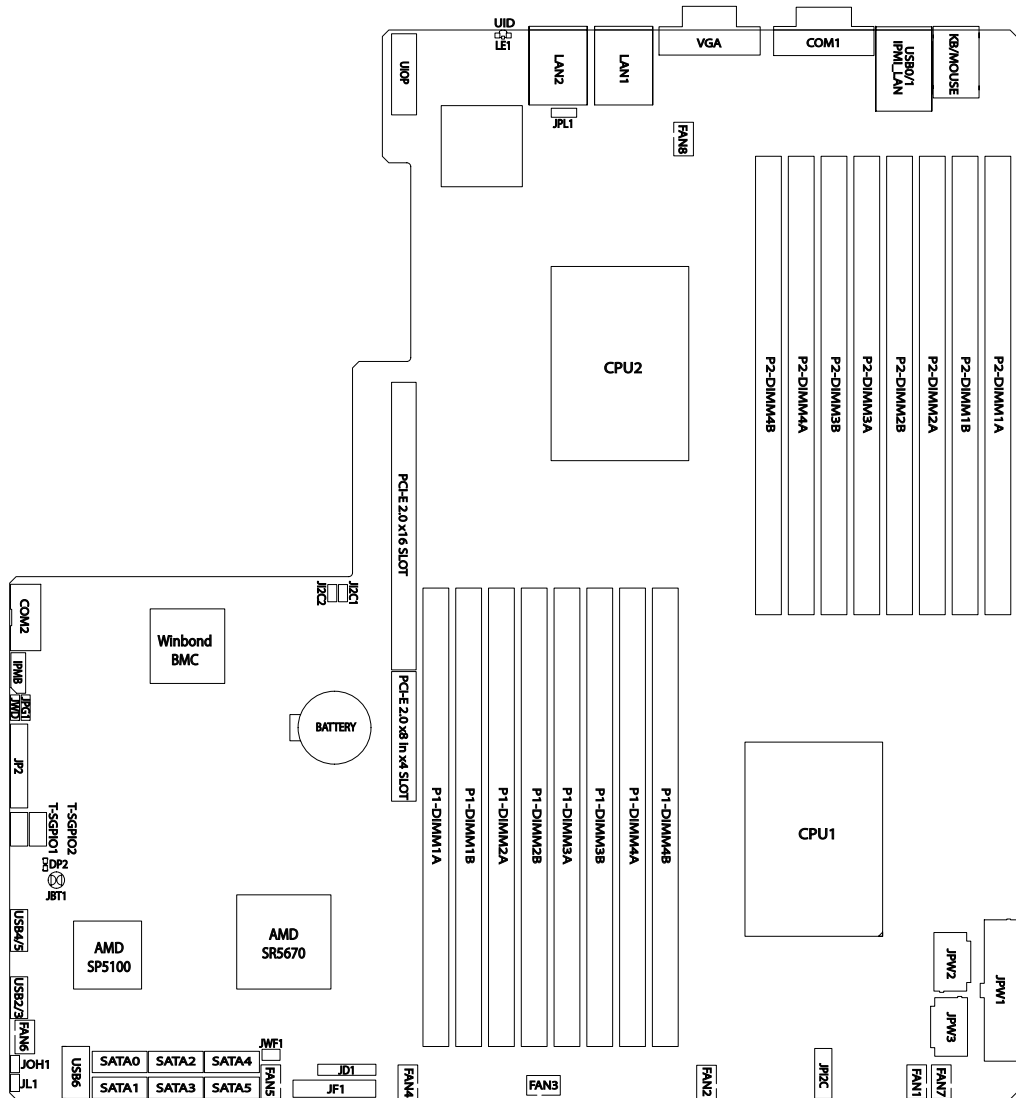

Figure 5-3 Node Board Features
- See Figure 5-3 for CPU locations on the serverboard - note that the drawing is not to scale.
- Eight (8) SAS ports supported by an LSI 2008 SAS2 controller (RAID 0, 1, 10 supported; Raid 5 Optional) (SAS only) See Figure 5-3 on page 36
- Two (2) Fast UART 16550 compatible serial ports (one header and one port)
- Seven (7) USB (Universal Serial Bus 2.0) ports (2x rear and 2x front [external], 3x header, 1x type A)
- Two (2) LAN ports supported by an onboard Intel® 82576 dual port Ethernet controller for 10/100/1000Base-T
- One (1) dedicated (RJ-45) IPMI LAN port
- One (1) VGA port supported by an onboard Matrox® G200 graphics controller (with 16 MB DDR2 memory)